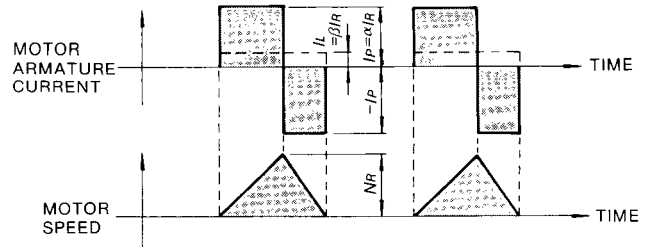

Fig. 4. 5 Timing Chart of Motor Armature Current and Speed
- When the motor accelerates, runs at constant speed, and decelerates in a continuing cycle without being at standstill (Fig. 4. 6)